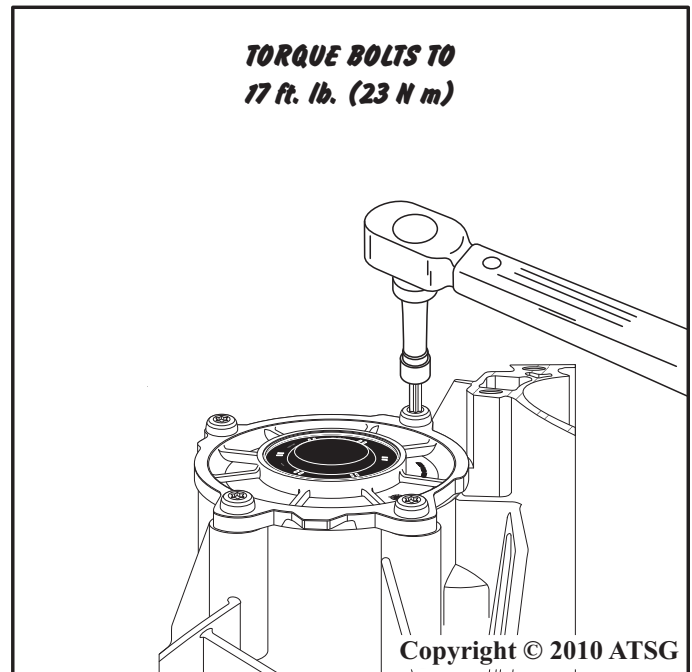

Figure 25
61. Torque the 4 bolts to 17 ft. lb. (23 N m) as shown in figure 25.